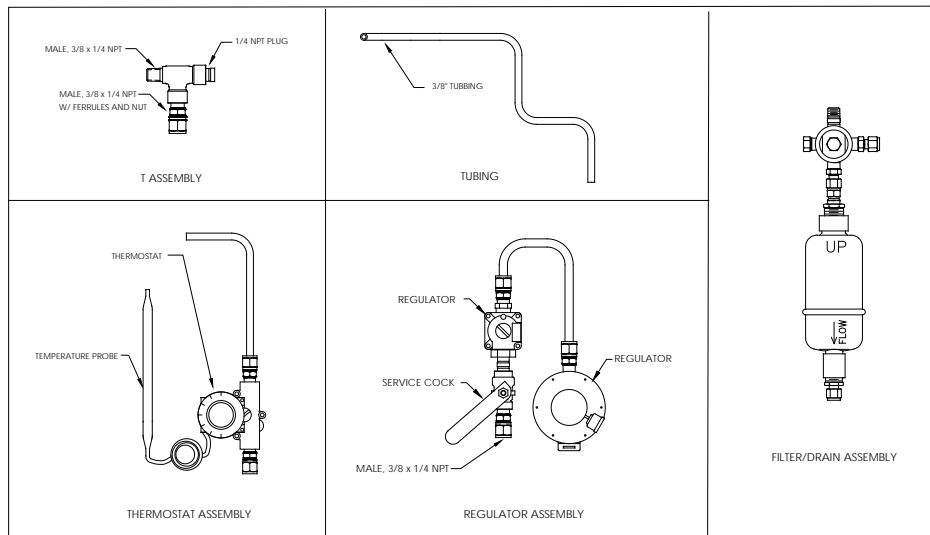

Figure 3-48 Catalytic Heater Assemblies
- 3) Apply Teflon® tape to threads of the male end of the T assembly (see Figure 3-48).